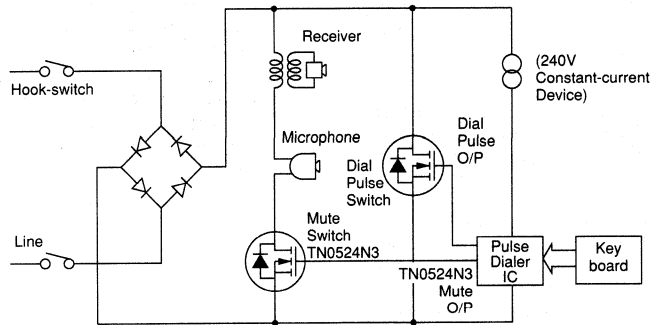

Figure 7. MOSFETs in a Telephone Handset
- Telephone handsets encounter wide variations of voltage during normal operation (Figure 7). While the DC voltage appearing across the unit may vary from approximately 3 to 25 volts when the phone is off the hook, high voltage AC ringer signals and associated transients have to be handled safely. Moreover, atmospheric disturbances (e.g., lightning and RF radiations) are picked up by the lines, inducing high voltages which are suppressed by MOVs, gas discharge tubes, etc. (not shown in the figure).